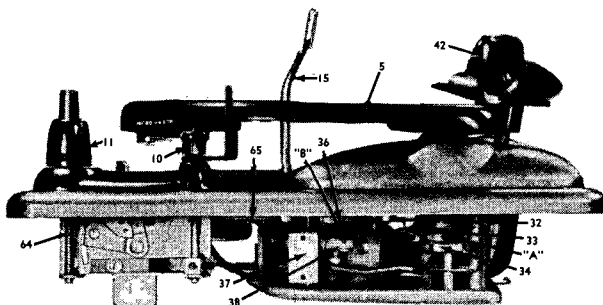

Fig. 1
At the completion of the change cycle, the Actuating Pawl is disengaged from the Main Cam Assembly Actuating Gear (36) by the hook end of the Velocity Trip and Roller Assembly (37) which has been returned to its normal position by the reset points on the Main Cam Drive Gear (Fig. 3). This hook should be adjusted for about  $\frac{1}{16}$ " clearance from the bottom of the Main Cam Drive Gear (36), Fig. 1. Greater clearance may permit the pawl to bounce past the hook and re-engage, causing the mechanism to continue to cycle.
Be sure the set screws (A of Fig. 1) of the pickup arm raising disc are not loose and are properly positioned in the alignment holes as explained in the paragraph on Needle Setdown Indexing.
5. With a No. 8 Bristol wrench in each of the set screws of the Pickup Arm Raising Disc (35) as indicated in A, Fig. 1, alternately loosen one screw and tighten the other until the needle rests above the record lead-in groove at the desired point.
6. Complete the change cycle of the mechanism and position the Pickup Arm on the rest button (10). If necessary, bend the tongue of the Pickup Arm Raising Disc closer to or away from the Base Plate Post until the Pickup Arm is correctly seated on the rest button when the tongue is touching the Base Plate Post.